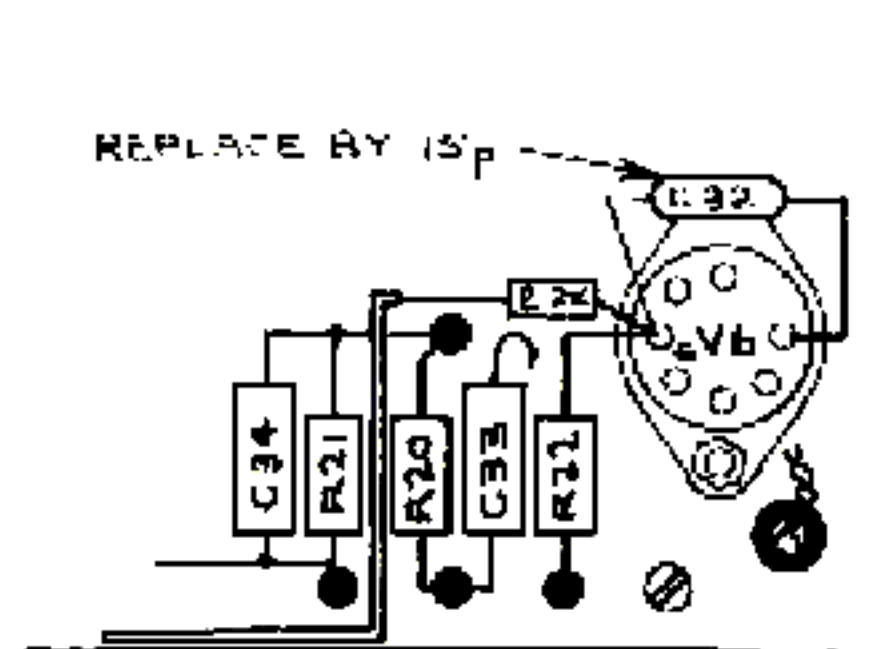

FIG 2.
- (1) Disconnect capacitor C33 (.04 μ) from pin 5 of valve V6 (6AL5). If this component is left in position the lead wire should be placed so that accidental contact cannot be made with any other part of the circuit. Replace C32 (47p) by a capacitor of 15p.
- (2) Remove the Brown audio lead from the pillar tag at the junction of resistors R20 (220K), R21 (100K) and capacitor C34 (1000p).
- (3) Connect the Brown audio lead via a 2.2K resistor (Dubilier BTT or equivalent) to pin 5 of valve V6 (6AL5). Keep the resistor close to pin 5 (see fig 2).